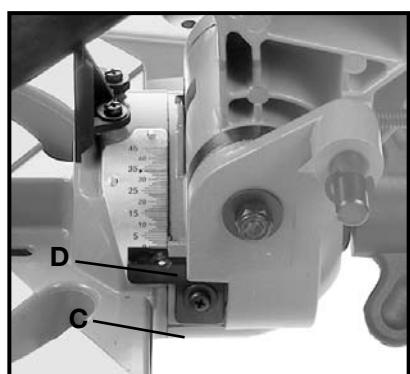

Fig. 24
2. Positive stops are provided to rapidly position the saw blade at 90 and 45 degrees to the table. Refer to the section of this manual titled "**Adjusting 90 and 45 degree bevel positive stops.**" The bevel angle of the cutting arm is determined by the position of the pointer (C) Fig. 24, on scale (D).